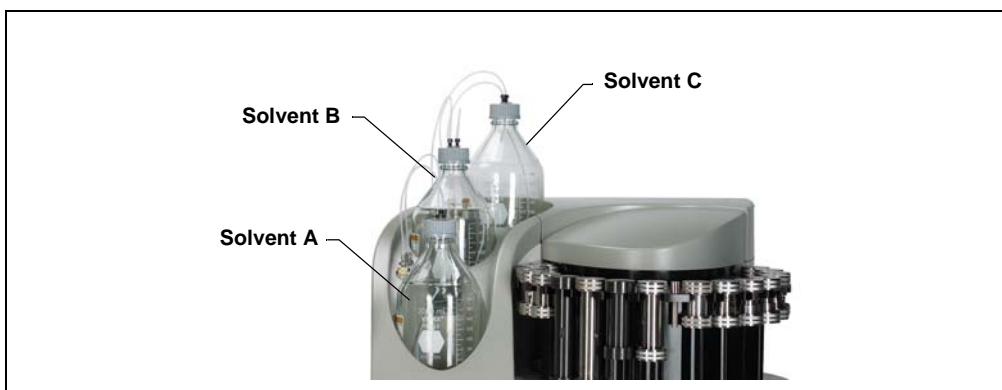

*Figure B-8. Solvent Reservoir Connections*
Never fill the solvent reservoir or disconnect the tubing connections to the solvent and gas connectors (see Figure B-8) during a run or rinse cycle. At these times, the solvent reservoir is pressurized. If you remove the reservoir cap when the solvent reservoir is pressurized, the Dionex ASE 350 may not operate to specification.
1. Fill the solvent reservoir (P/N 045901) with prepared solvent (for example, acetone) to the level indicated in Figure B-8.
2. Insert the solvent line extending from the underside of the reservoir cap assembly (P/N 068077) into the reservoir (see Figure B-8). Make sure the end-line filter rests on the bottom of the reservoir.